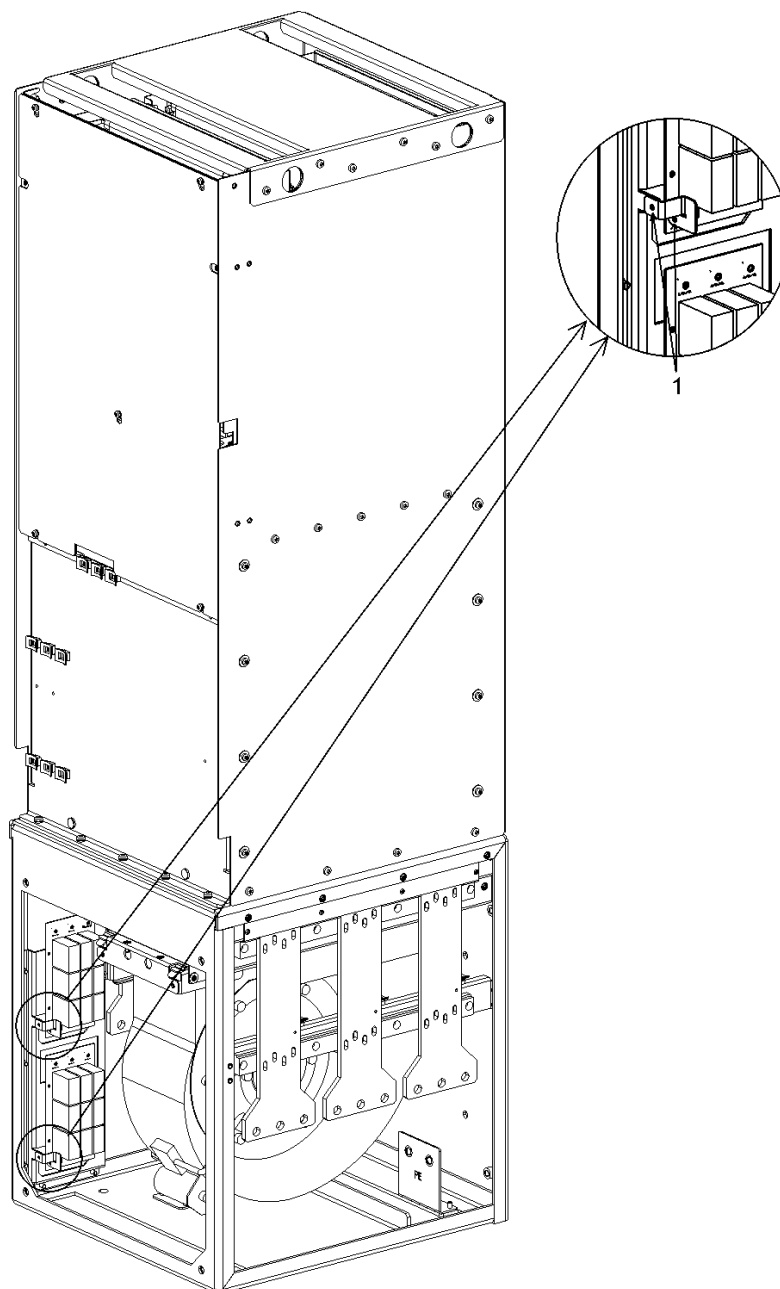

Fig. 2-14 Removing the connection bracket for the interference-suppression capacitor (here: type JI)
When the device is operated on an insulated network (IT), the connection bracket for the interference-suppression capacitor must be removed (e.g.: "1" in Fig. 2-14).